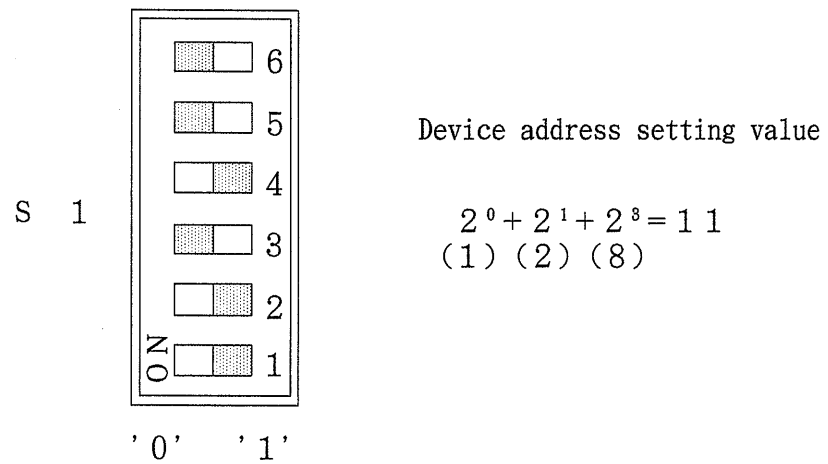

Figure 6-1
- c) Figure 6-1 shows how S1 is set for address "11".